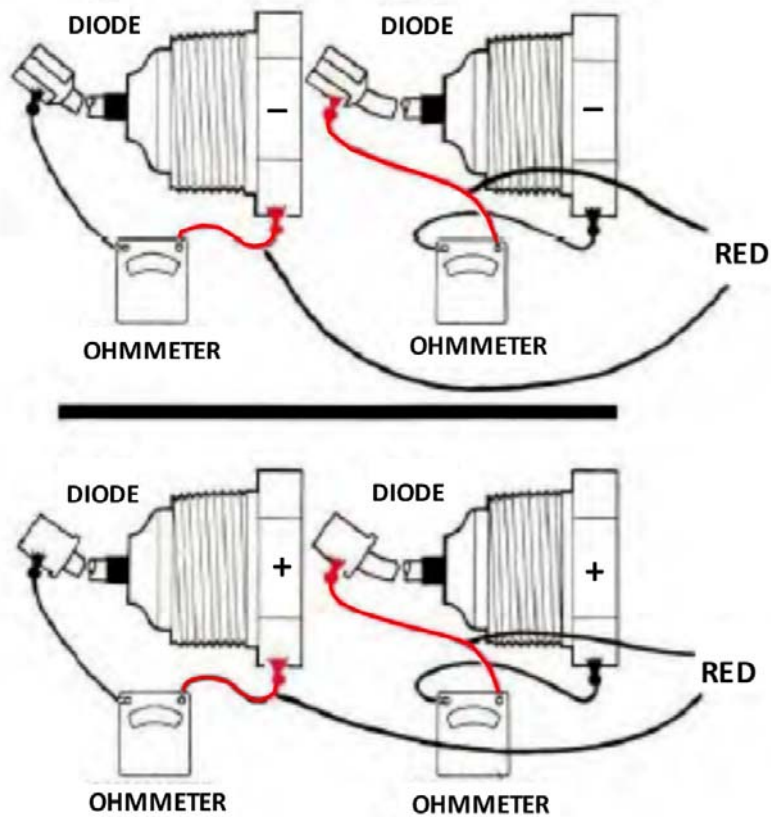

Figure 31
5. Connect small test leads as shown in Fig. 31 between the center post and the base.